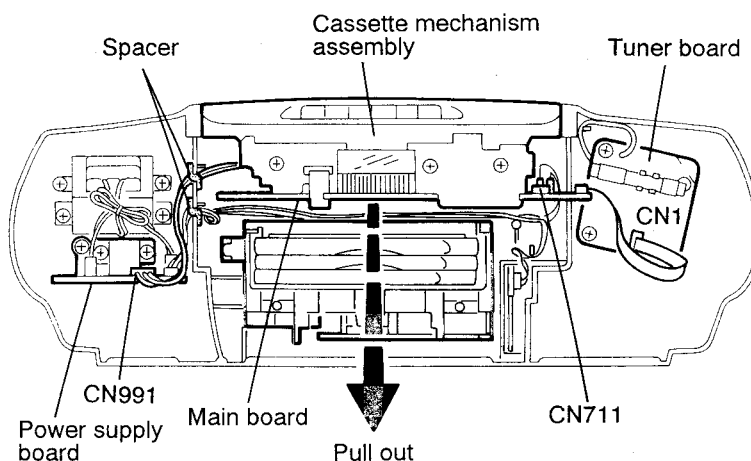

Fig. 5-9
■ Removing the cassette mechanism assembly (See Fig. 5-9)